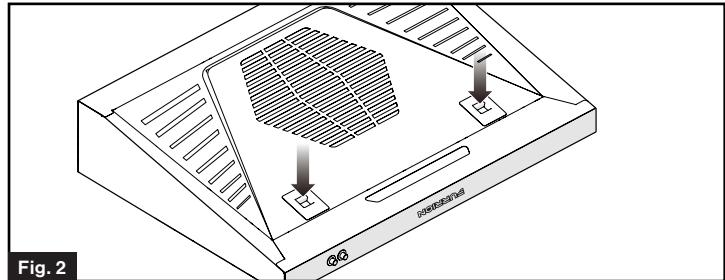

Fig. 2
2. Press the two release tabs on the grill cover to release it from range hood. (Fig. 2)